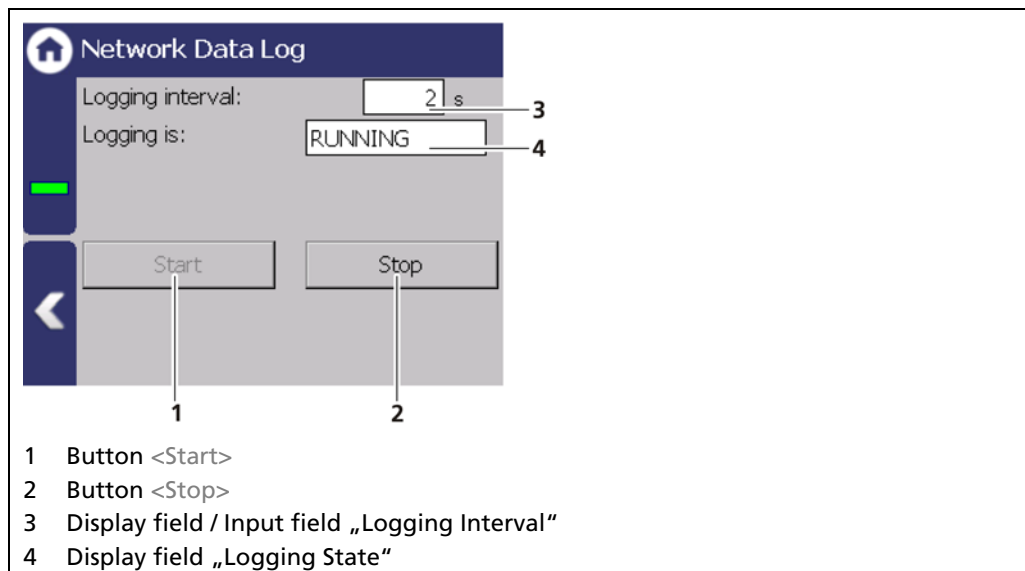

Fig. 127 Network Data Log (started)
1. Click on the button <Stop> if necessary. Click on the entry field "Logging interval" (Fig. 127, item 3) and enter an interval.
2. Start the network data log with the button <Start> (Fig. 127, item 1).